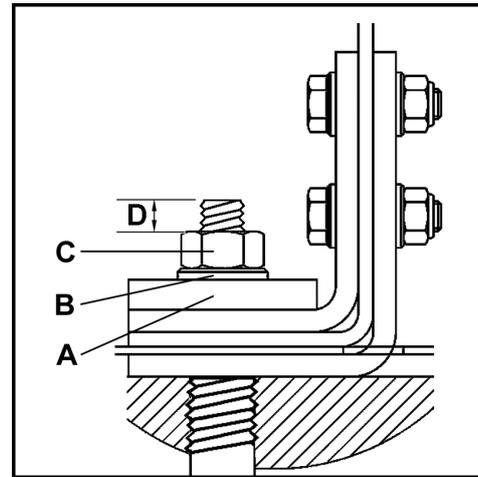

Fig. 2.6
Fit the securing washer (Fig. 2.6/A), the safety washer (Fig. 2.6/B) and the nut (Fig. 2.6/C) onto each bolt and tighten the nut until there is approximately **1/2 in** (10mm) of free thread protruding above the nut (Fig. 2.6, value **D**).
**THE FLAT WASHERS ARE ESSENTIAL IN MAKING A SECURE BOLTING DOWN OF THE WASHING MACHINE** (Fig. 2.6/A and B).